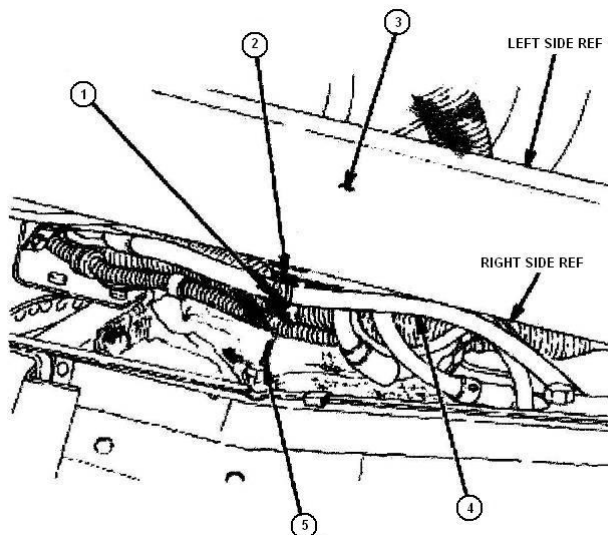

Figure 52
(15) Remove screw (5) from bracket (2) and frame rail (3) as shown in **Figure 52**. Discard screw (5).
(16) Install MS21333-129 clamp (1) on cable (4) and secure to frame rail (3) and bracket (2), with 271153 screws (5) as shown in **Figure 52**.